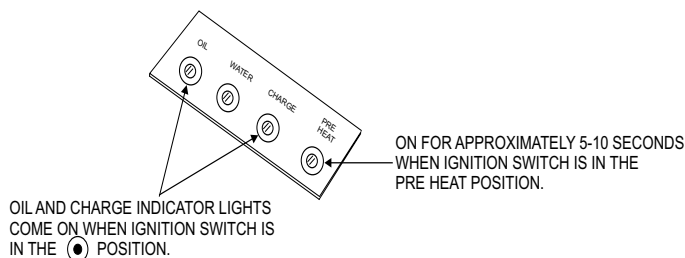

Figure 9. Oil and Charge Indicator Lights
- Turn the ignition key clockwise to the (start) position. The **oil** and **charge** indicator lights (Figure 9) should be on.